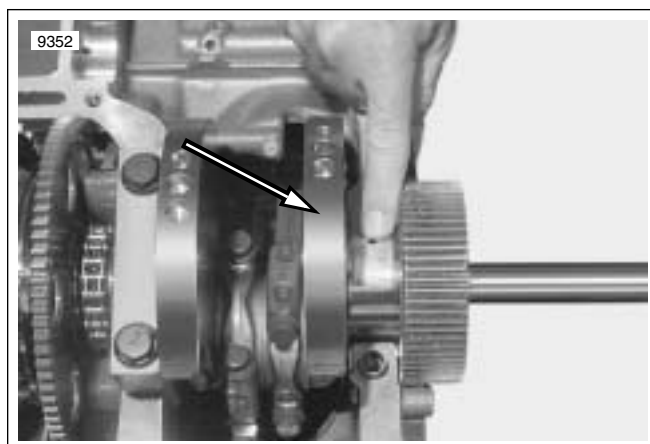

Figure 3-185. Remove Water Pump Side Bearing
5. See Figure 3-185. Position the **new** bearing so the notch rolls into the case last and matches the engine case relief notch.